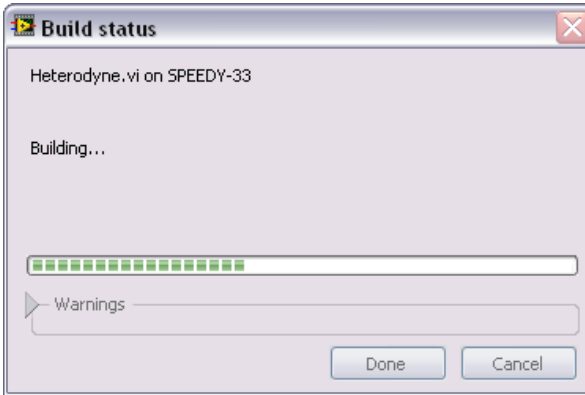

Figure 5. Building the DSP VI into a DSP Application
3. Click the **Run** button, shown at left, to build, download, and run the DSP application on the SPEEDY-33 target. When you click the **Run** button, the **Build status** dialog box, shown in Figure 5, appears and displays the progress of the building and downloading of the DSP application on the SPEEDY-33 target.